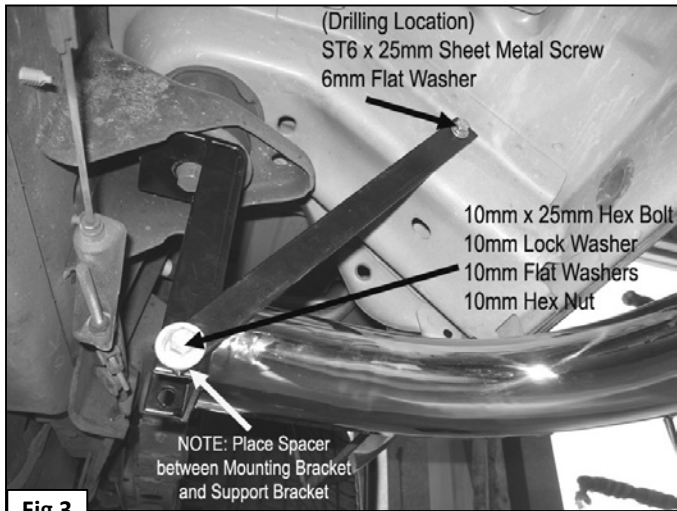

Fig 3
- 6.** Partially attach one of the rear Support Brackets to the front side of the rear Mounting Bracket using the included (1) 10mm x 25mm Hex Head Bolt, (1) 10mm Lock Washer, (2) 10mm Flat Washers, and (1) 10mm Hex Nut **(Figure 3)**. **NOTE:** Larger hole in the Support Bracket mounts to the Mounting Bracket. If you are installing the 4" Oval Sidebar, place the included Square Spacer between the Mounting Bracket and the Support Bracket to compensate for the gap.
- 7.** Extend Support Bracket upwards to the body channel, and use the smaller hole in the Support Bracket as a template to mark the drilling location in the body channel **(Figure 3)**.
- 9.** Once you have drilled the hole in the body channel, attach Support Bracket to previously drilled hole using the included (1) ST6 x 25mm Sheet Metal Screw and (1) 6mm Flat Washer **(Figure 3)**. Tighten at this time. **IMPORTANT!** Do not over tighten or a pull out may occur.